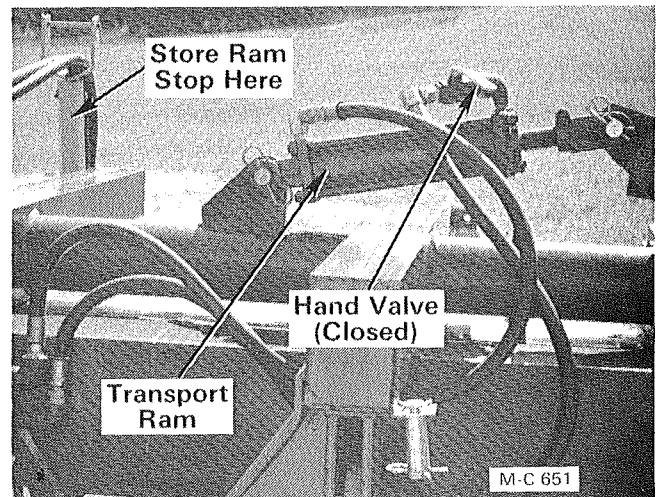

Figure 15C
5. Raise the transport wheels all the way up with the transport ram and close the hand valve on the ram, see Figure 15C. Stop the